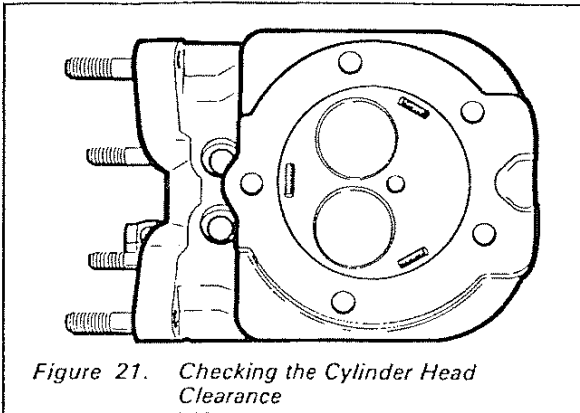

Figure 21. Checking the Cylinder Head Clearance
3. Using a very small amount of high melting point grease place three pieces of lead wire 1.2mm (0.048in) thick equidistant on the cylinder head as shown in Figure 21.